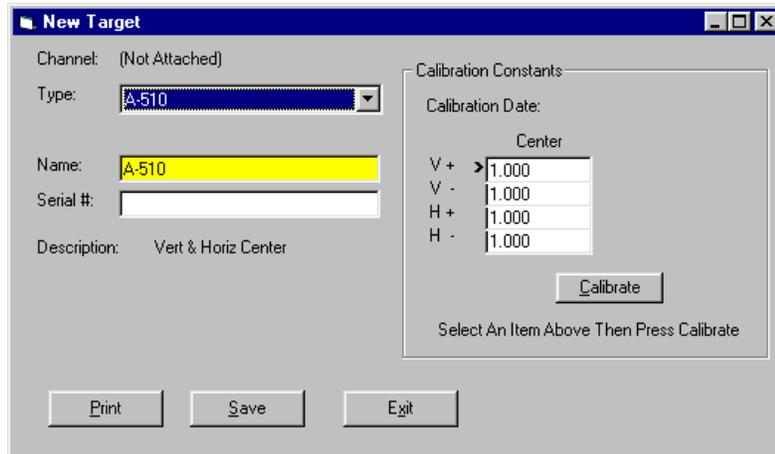

Figure 57 - New Target Screen – 2-axis Target
Click the **New Target** button. The New Target screen displays (see **Figure 57**).**Error! Reference source not found.**Click the down arrow next to the **Type** list box to see a list of targets. Select the target you want to add. You may enter a new name for the target and the target serial number.
1. **For the first reading (in this case V+), center the target using the centering micrometer. This corresponds to Step 1 on the Calibration Screen (see Figure 57).**
The Calibration Constants menu for center-and-slope targets requires that four calibration factors for center and four calibration factors for slope be entered (compare with **Figure 57**). The procedure is the same as that for calibrating a center-only target, however, the calibration factors for slope are obtained by using the angle micrometer.